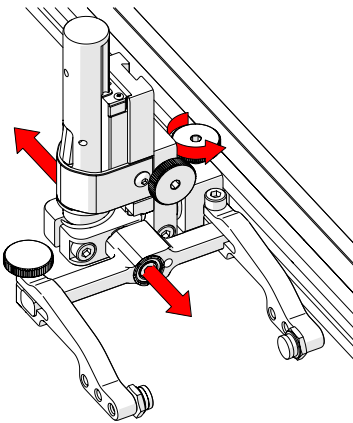

Fig. 62 - Adjust on frame bar
1. The probe holder adjustment knob allows the probe holder to be attached to a frame bar and adjusts horizontal positioning (Fig. 62).